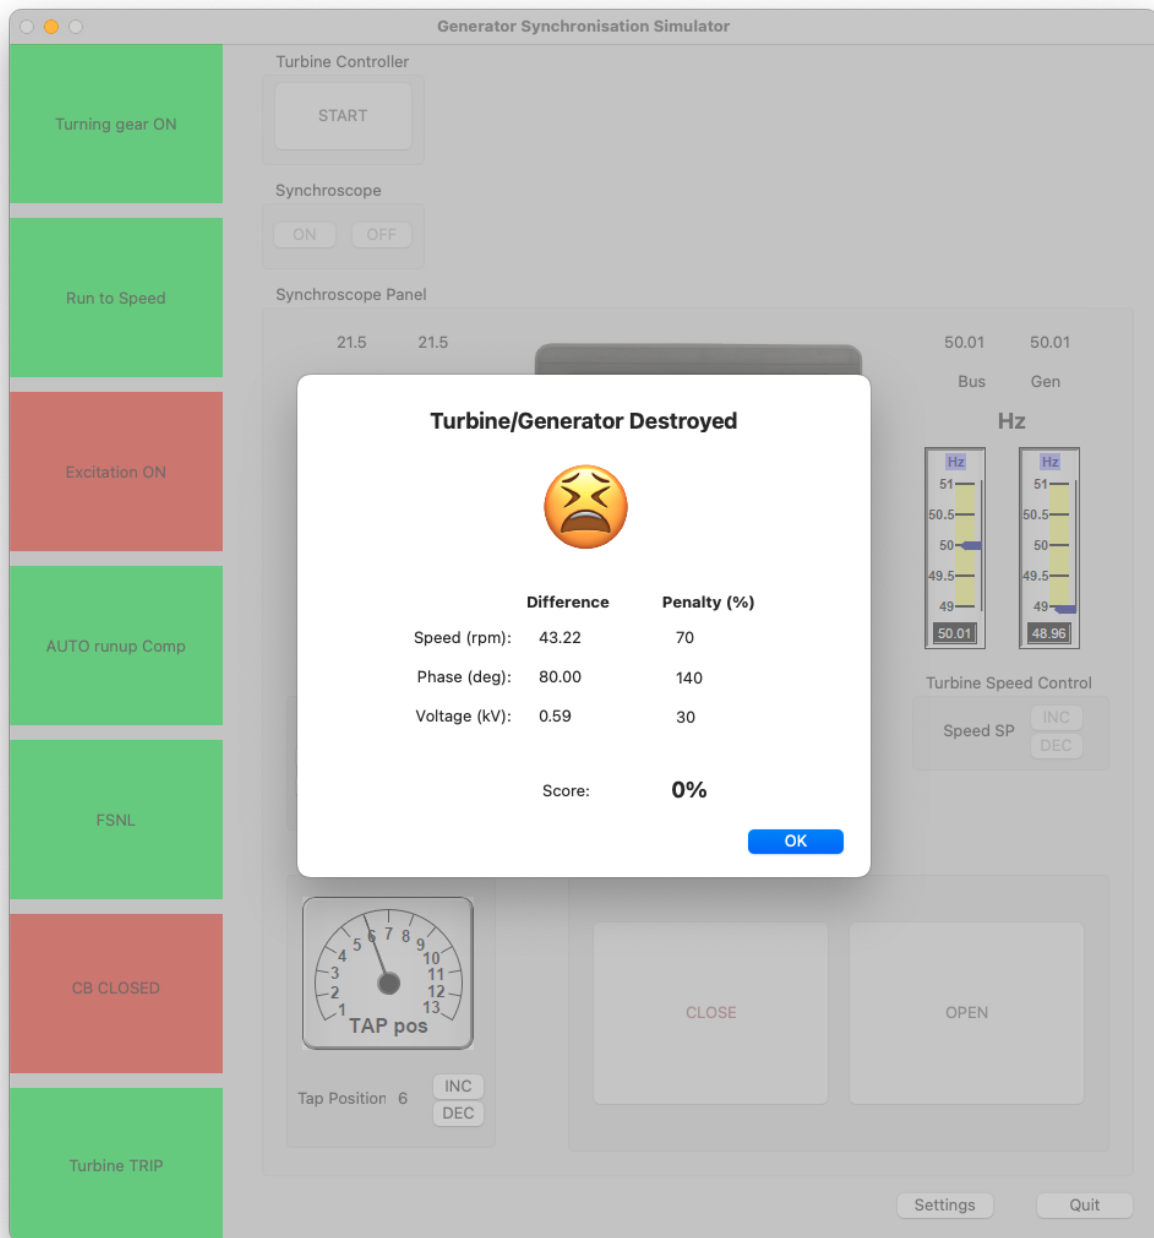

Figure 5: Not a good result
9. Once the Generator CB is closed and the machine synchronised to the Busbar your score will be displayed (see Figure 5). Anything less than 50% will result in damage to the turbine and/or generator and involve a long maintenance outage.